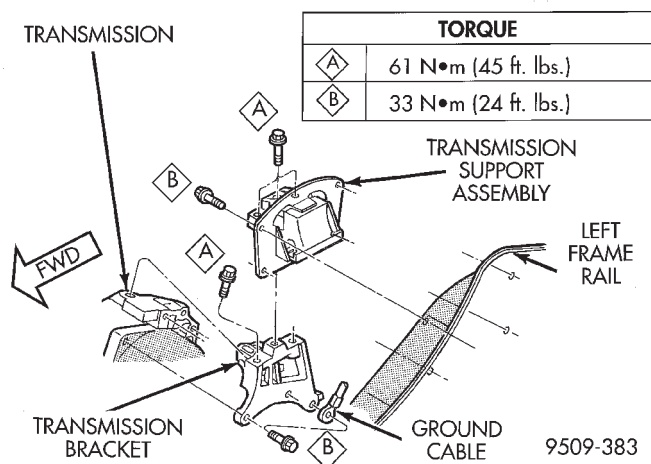

Fig. 21 Typical Engine Mounting—Left
(3) Remove the transmission mount fasteners and remove mount.
(4) Reverse removal procedure for installation. Refer to (Fig. 21) for bolt tightening specifications.
(5) Engine support assemblies adjustment, Refer to Engine Support Assembly Adjustment of this section.